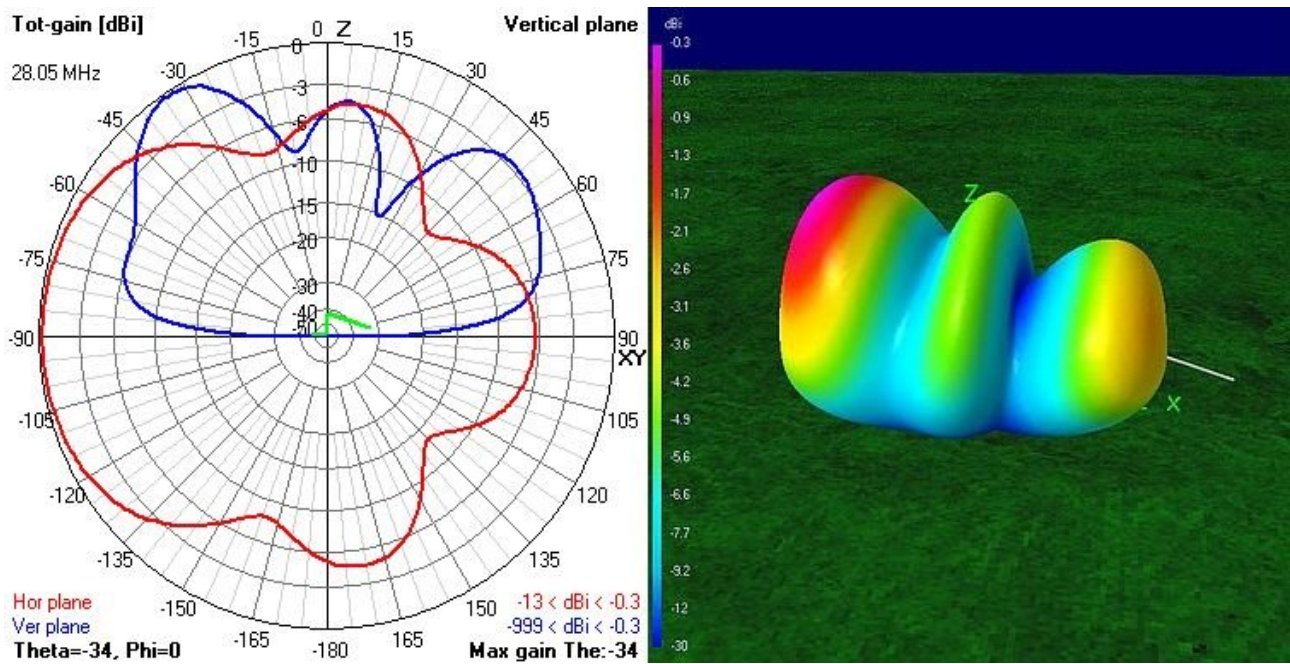
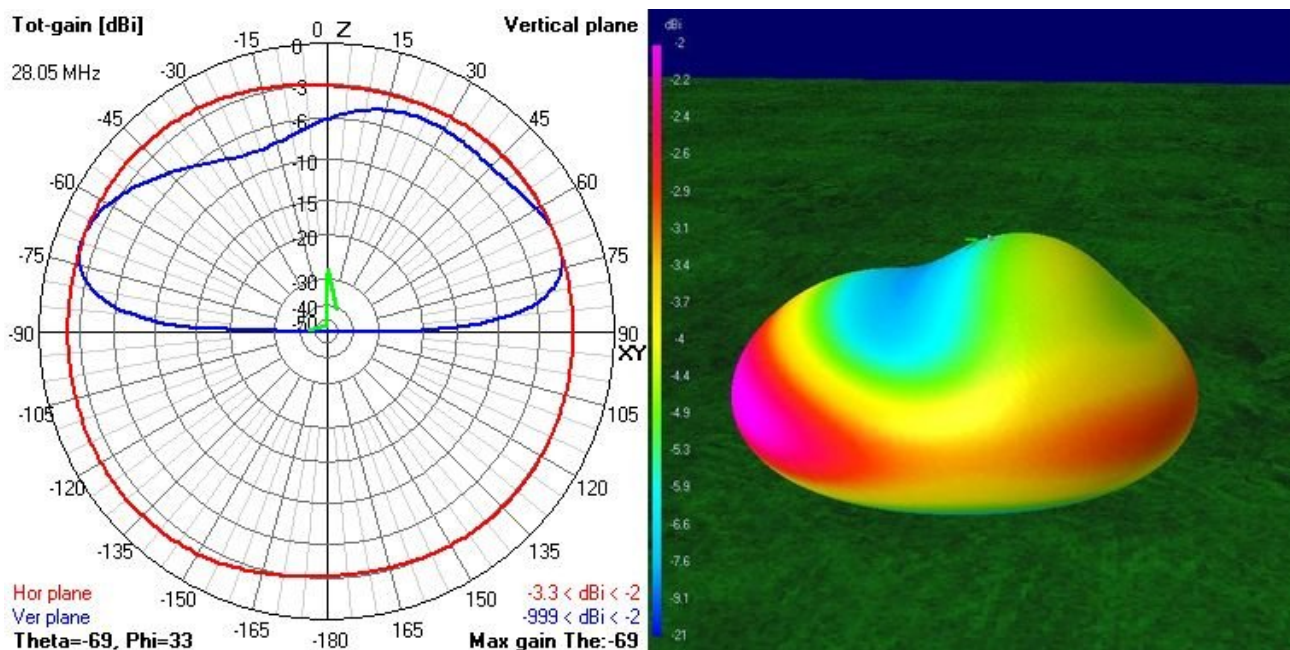

Figure 16: 10-meter-band radiation pattern (2λ)
Figure 17: 10-meter-band radiation pattern (1λ) of the compact EFHW antenna
- If we do not only focus on the coupler, but look at the whole antenna system including the antenna radiation pattern, it would be better to use two different antennas for a lower and a higher band segment, e.g., a standard 20m-long radiator with a switchable coil for the 60- and 40-meter bands and a compact 10m-long radiator for the 20- to 10-meter bands. The main reason is that a 0.5λ - or 1λ -long radiator has a more uniform pattern compared to a 1.5λ - or 2λ -long radiator (see Antenna Radiation Pattern). Unfortunately, swapping antennas takes time and effort, which is something a typical SOTA activator tries to avoid. In practice, I did several sporadic E contacts on the 10-meter band transmitting with only 5W even on FM and using the inferior 2λ -long radiator. Its pattern looks like a cloud burner (see Figure 16), but when the 10-meter band is open, even a mediocre antenna works pretty well. For the sake of simplicity, I stick to one main antenna and accept its limits on the higher bands. When focusing for an extended time on the higher bands, one can still choose the compact 12m-long antenna (see below) with its better radiation pattern especially on the 10-meter band (see Figure 17). It can also be used on the 40-meter band, albeit with less efficiency.